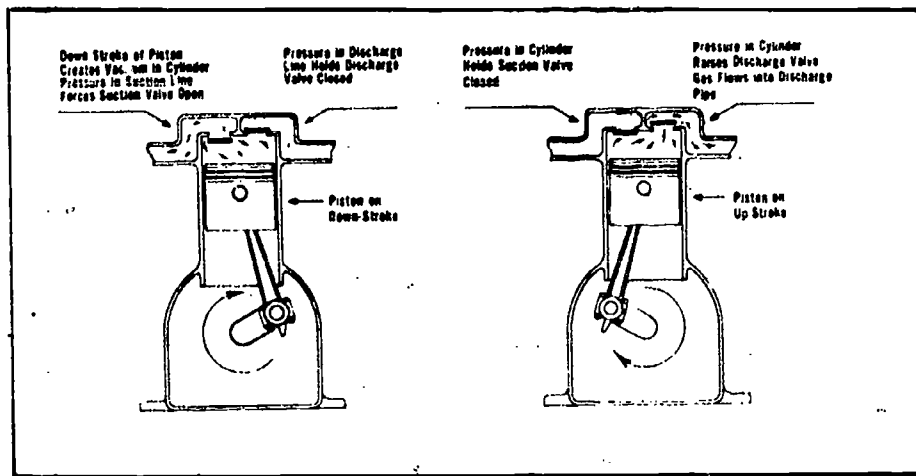

Fig 2-1. Operating cycle of a reciprocating compressor.
b. Reciprocating compressors (fig 2-1). A reciprocating compressor is very similar to a 2-cycle gasoline engine. Many of its components are similar not only in appearance but in their use. Pistons, connecting rods, bearings, crankshafts, and valves are employed in the construction of a reciprocating compressor. The cycle of operation is also similar in that the intake is on the downstroke and the exhaust is on the upstroke. The refrigerant gas is pulled into the compressor through the intake or suction valve on the downstroke of the compressor. When the piston reaches the termination point of its downstroke and begins its upstroke, the intake valve closes. As the piston ascends, the refrigerant vapor is compressed to condensing pressure, the exhaust or discharge valve opens, and the compressed refrigerant vapor is allowed to escape to the condenser. Figure 2-1 shows the operating cycle of a reciprocating compressor.